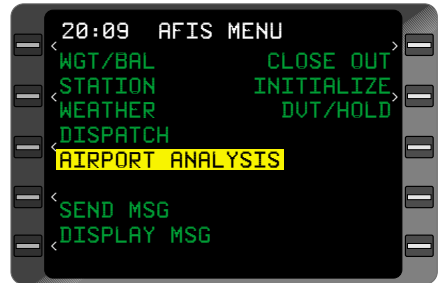

Figure 8-21
2. Line Select Key - DEPRESS to position the cursor over **AIRPORT ANALYSIS**. See Figure 8-21.